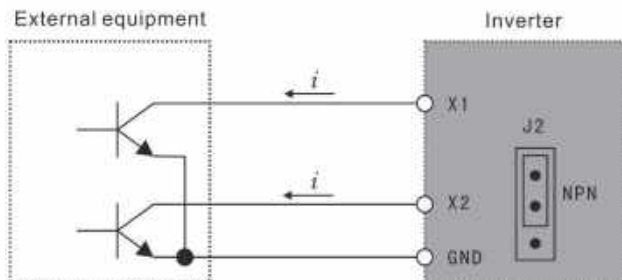

Figure 3-1 NPN Type Wiring Mode
(1) When NPN type wiring mode is adopted for external equipment, leakage type logic is induced and the current flows out from input terminal (sourcing current) as shown in Figure 3-1, at the same time parameter F067=0 is required.